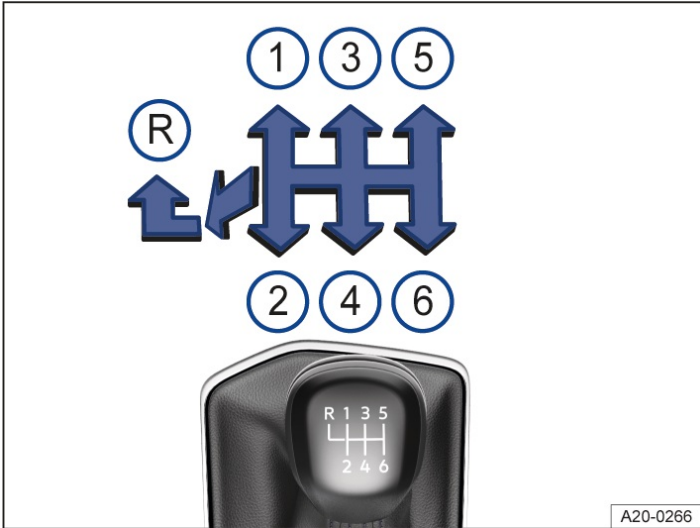

Fig. 1 Gear shift pattern of a 6-speed manual gearbox.
2. Move the gear lever to the required position → Fig. 1 .
3. Push the gear lever fully to the left and then forwards into the reverse gear position → Fig. 1 .